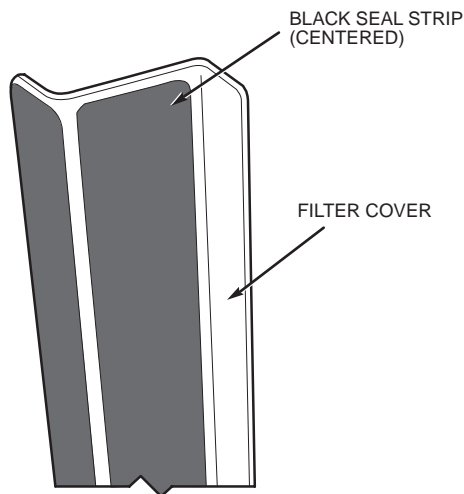

Fig. 32 — Attaching Seal Strip to Filter Cover
- Attach black seal strip (provided) to filter cover. Seal strip should be applied to the center of the large flange making sure to cover holes. See Fig. 32.